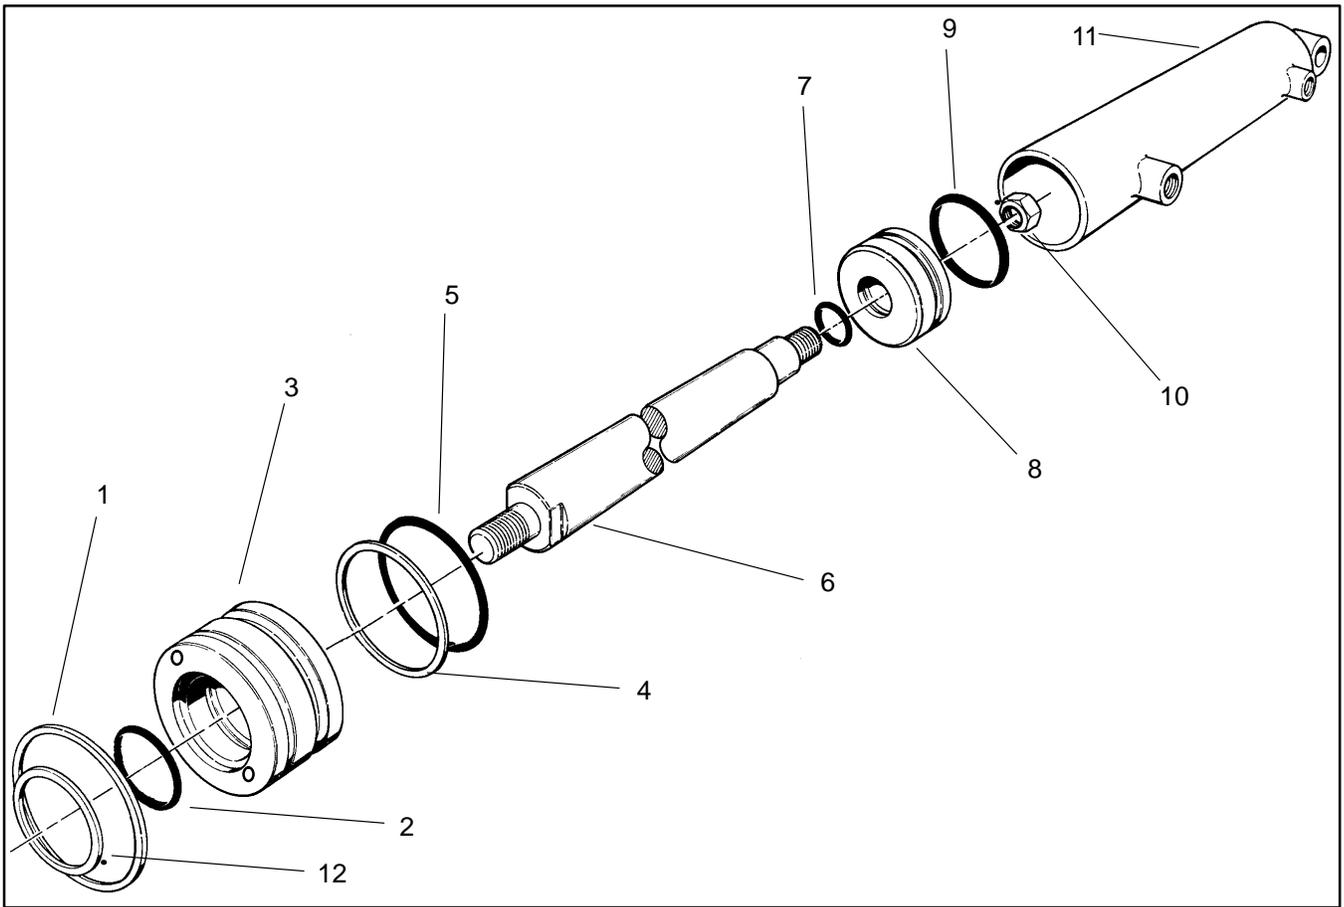
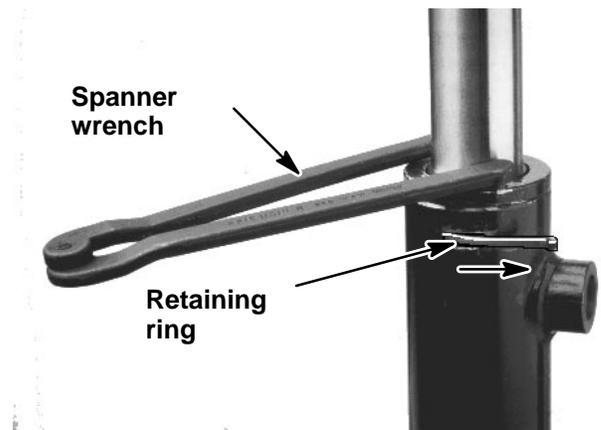

Figure 60
Figure 61
**Disassembly (Fig. 60)**
1. Remove oil from the cylinder into a drain pan by **slowly** pumping the cylinder shaft (6). Plug both ports and clean the outside of the lift cylinder.
**IMPORTANT: Prevent damage when clamping the lift cylinder into a vise; clamp on the pivot only. Do not close vise enough to distort barrel (11).**
2. Mount lift cylinder in a vise so that the shaft (6) end tilts up slightly. Remove and discard dust seal (12).
3. Rotate head (3) with a spanner wrench and remove retaining ring (1) as shown in Figure 61.
4. Grasp end of shaft (6); extract shaft, head (3), and piston (8) by carefully twisting and pulling on the shaft.
**IMPORTANT: Do not clamp vise jaws against shaft (6) surface. Protect shaft surface before mounting in the vise.**
5. Mount shaft (6) securely in a vise by clamping vise on the flats of the shaft. Remove locknut (10) and piston (8) from the shaft. Slide head (3) off the shaft.
### Inspection (Fig. 60)
### Reassembly (Fig. 60)